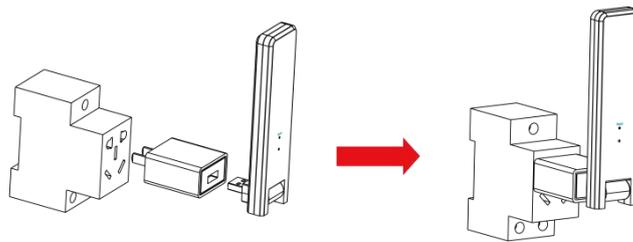

Figure 1
(3) DTU Installation
a. Connect the DTU to the adapter and plug it into the wall socket. (Figure 1)